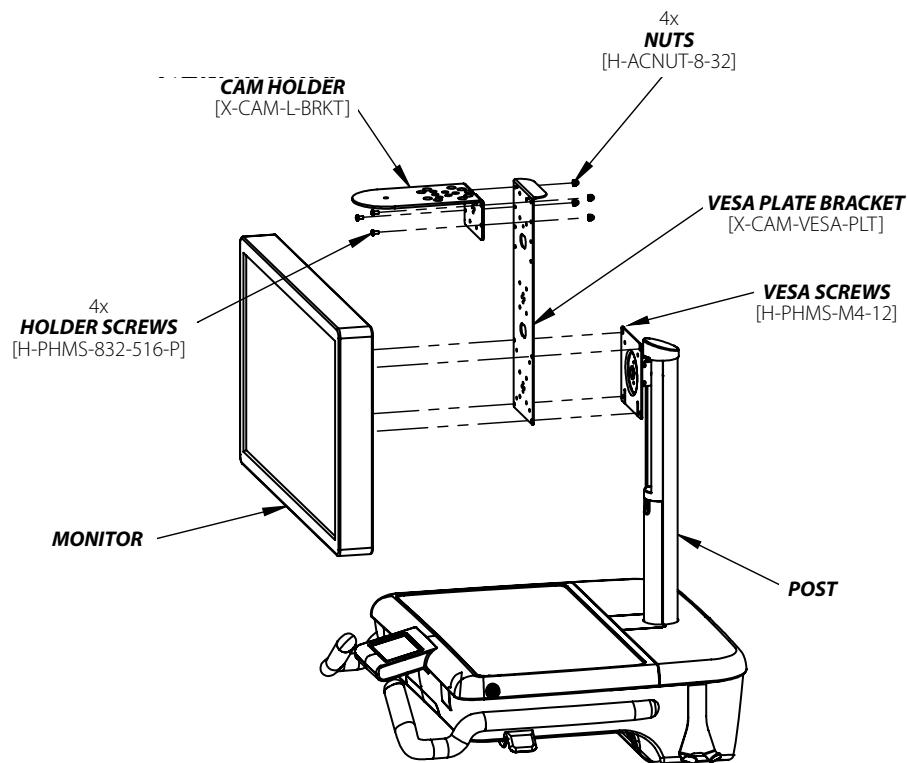

Figure 3
1. Place the *CAM HOLDER* onto the *VESA PLATE BRACKET* as shown in the **Figure 3**. Secure and tighten 4x *HOLDER SCREWS* through the *CAM HOLDER* and the *VESA PLATE BRACKET* into 4x *NUTS*.
2. Place the *VESA PLATE BRACKET* in between the *POST VESA MOUNT* and the *MONITOR* as shown in **Figure 3**. Secure and tighten 4x *VESA SCREWS*.